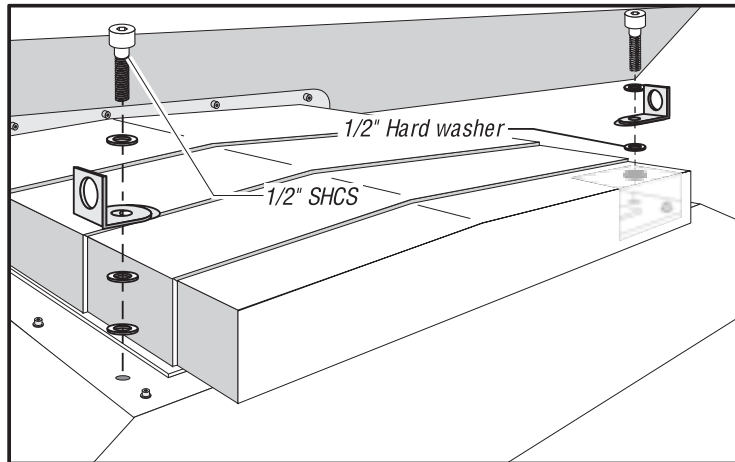

Fig. 1-3 Lifting bracket mounting location for VF-3 and VF-4.
3. Install the lifting brackets with (2) 1/2"-13 SHCS and (2) 1/2" hard washers, [(2) washers under bracket and (1) above bracket], to the base as shown in figure 1-3. Tighten securely.